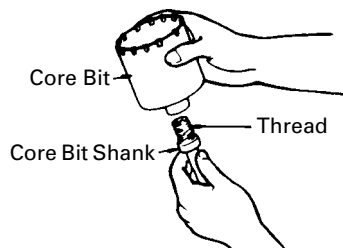

Fig. 14
- (1) Mount the core bit to the core bit shank. (Fig. 14)